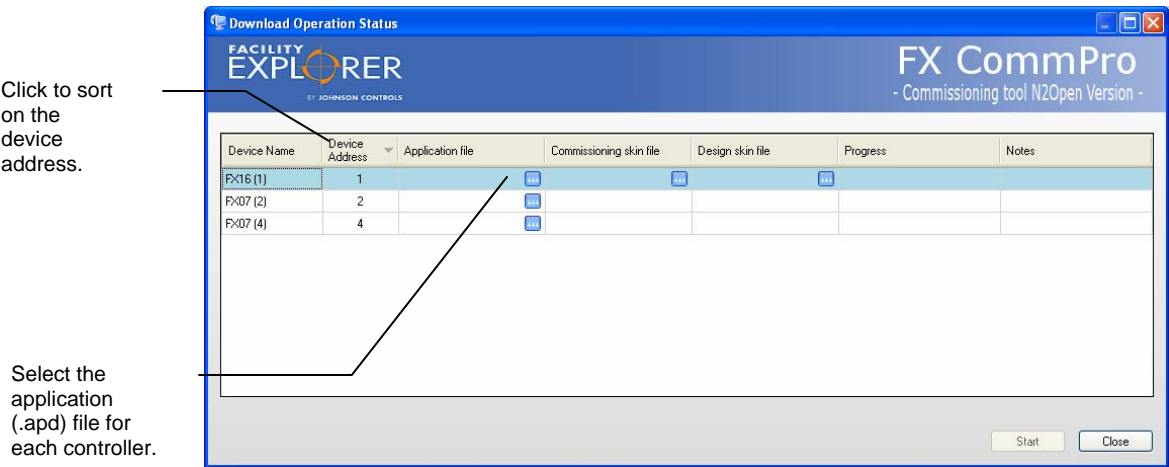

Figure 27: Download Operation Status Window
3. Select the desired application file (*.apd) and click Open. The Download Operation Status window appears (Figure 27).